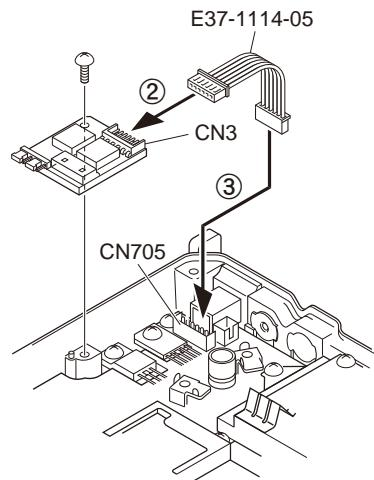

Fig. 2-2
5. Place the relay unit at the position shown in Figure 2-2 and secure it to the chassis with a screw.
6. Remove the cap on the rear of the chassis by pushing it from the inside with your finger. (④)
7. Pass the 6-pin connector of the cable (E37-1113-25) through the chassis hole (⑤) and insert the bush into the chassis hole.
8. Rotate the bush of the cable 90 degrees counterclockwise as viewed from the rear of the chassis. (⑥)
9. Insert the 6-pin connector of the cable into the connector (CN2) of the KAP-2 relay unit. (⑦)